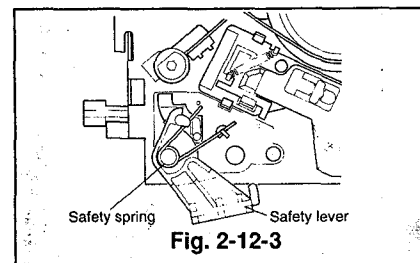

Fig. 2-12-3
- 2 Fix the safety spring to the shaft of the safety lever and hook it as shown in Fig. 2-12-3.